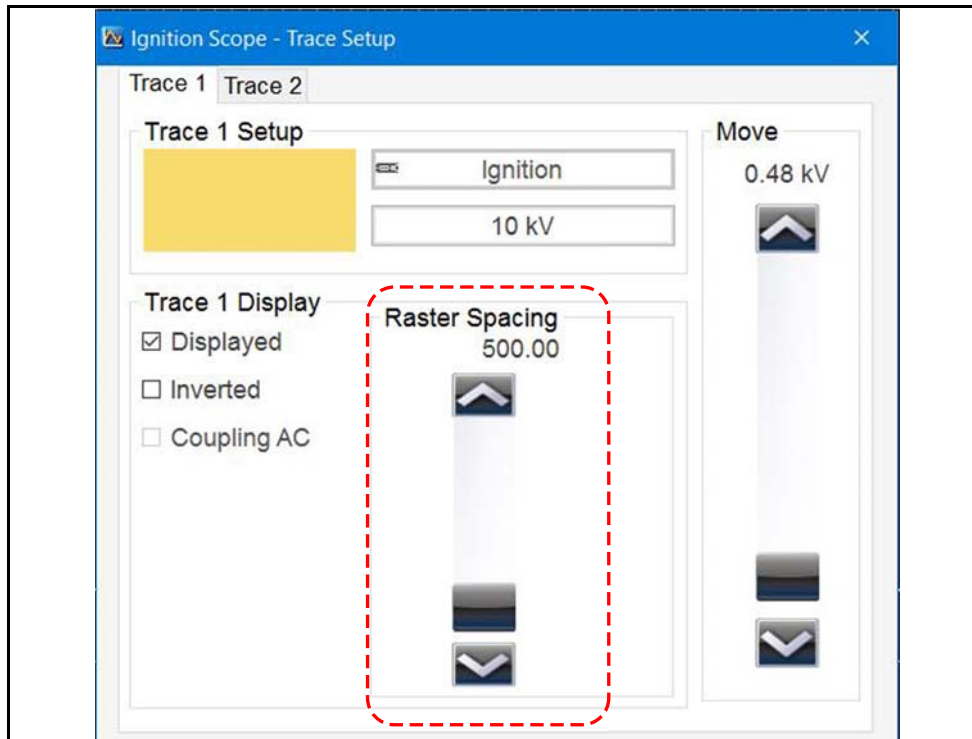

Figure 9-65
- Raster Spacing (Figure 9-65) adjustment is only available in Raster mode.